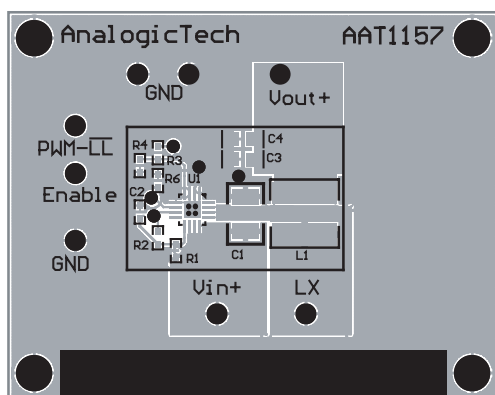

Figure 2: Evaluation Board Top Side.
The input capacitor RMS ripple current reaches a maximum when V_{IN} is two times the output voltage where it is approximately one half of the load current. Losses associated with the input ceramic capacitor are typically minimal and are not an issue. The proper placement of the input capacitor can be seen in the evaluation board layout (C1 in Figure 2).
Figures 2 and 3 display the suggested PCB layout for the AAT1157. The following guidelines should be used to help insure a proper layout.
6. For good heat transfer, four 15 mil vias spaced on a 26 mil grid connect the QFN central pad to the bottom side ground plane, as shown in Figures 2 and 3.